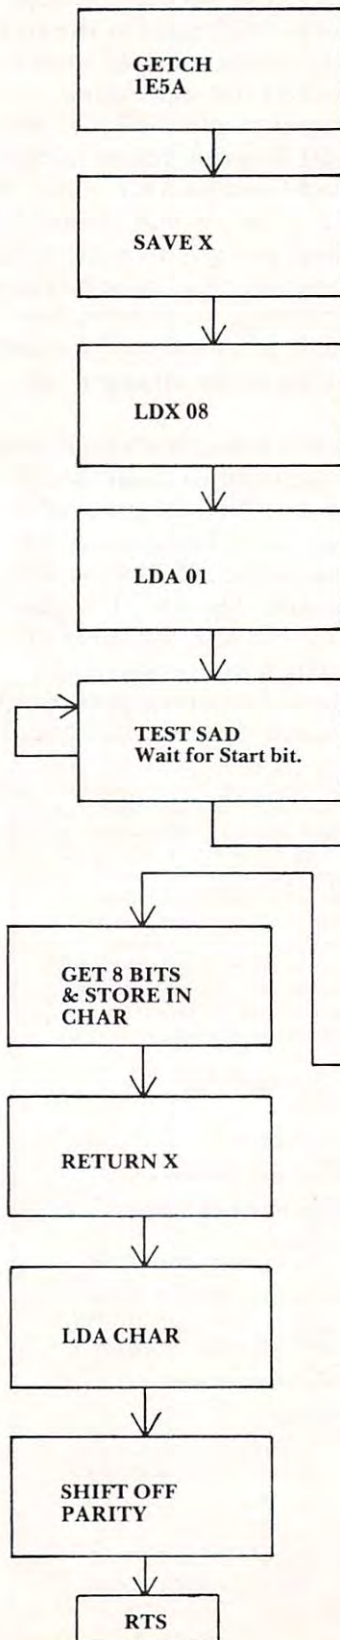
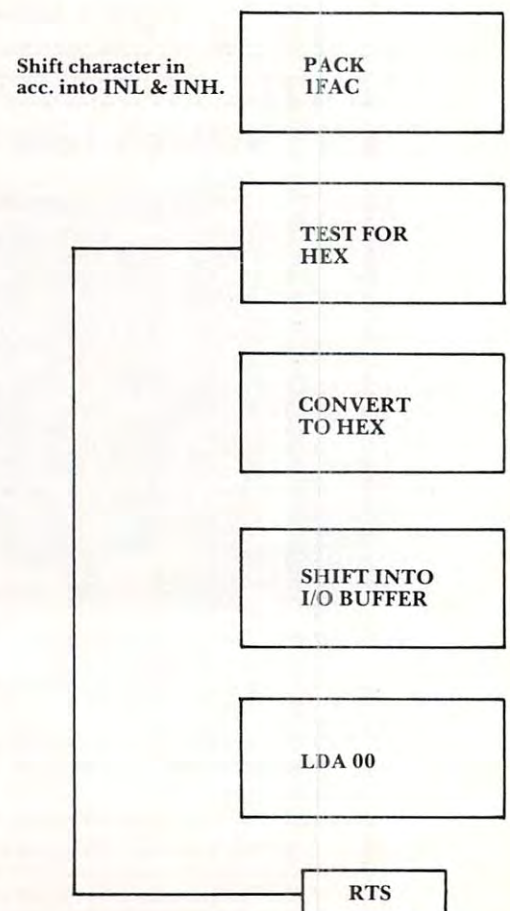
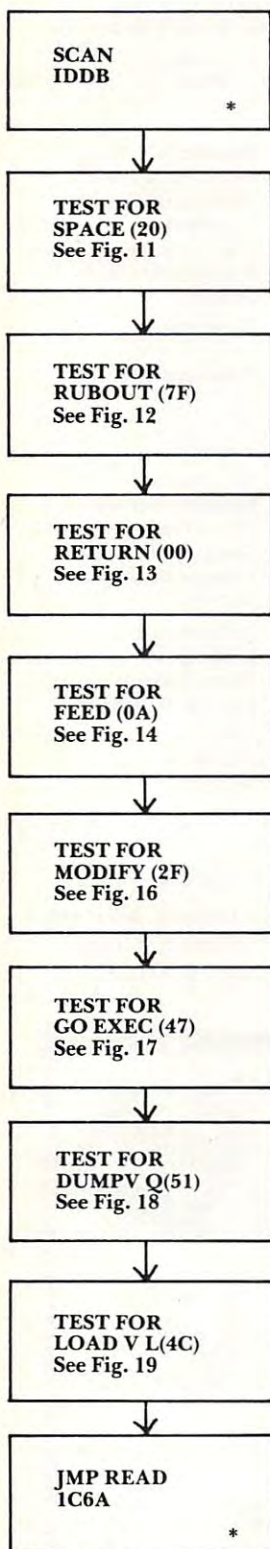

Figure 8. GETCH Subroutine
Figure 9. PACK Subroutine
Figure 10.
8. CLEAR. The accumulator gets loaded with 00 and is stored in INL & INH. The program tests for a character in GETCH, Fig. 8. In GETCH it stays in a loop waiting for a start bit. After the start bit, the rest of the character is retrieved and loaded into the accumulator, the program then comes back, and we test for KB mode again. If no KB the character is changed into a hex number in PACK, Fig. 9, and then in SCAN, Fig. 10, the program determines if the hex number is an execute key. If not, it will get another character.